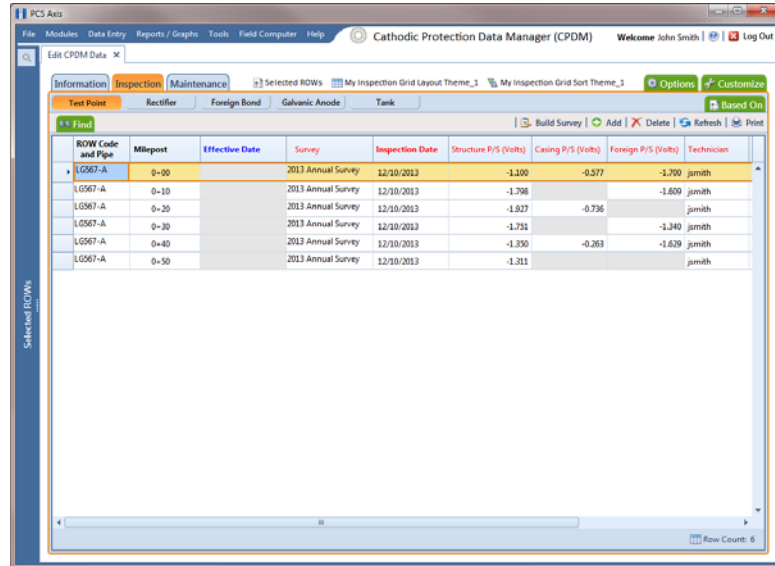

Figure 7-36. Test Point Inspection Grid
- 2 Open the *Edit <module> Data* window. For example, click **Data Entry > Edit CPDM Data** to open the *Edit CPDM Data* window (Figure 7-36, page 248).